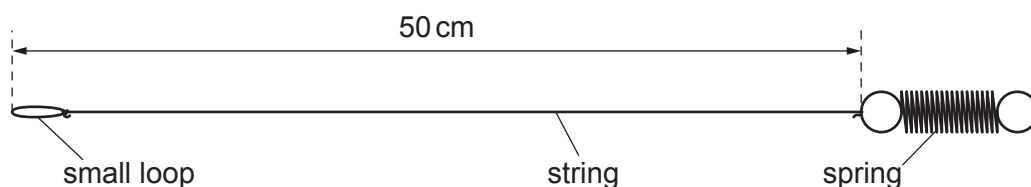

Figure 1.1
- 1 Tie a length of string to the spring. This string should have a small loop as shown in Figure 1.1.